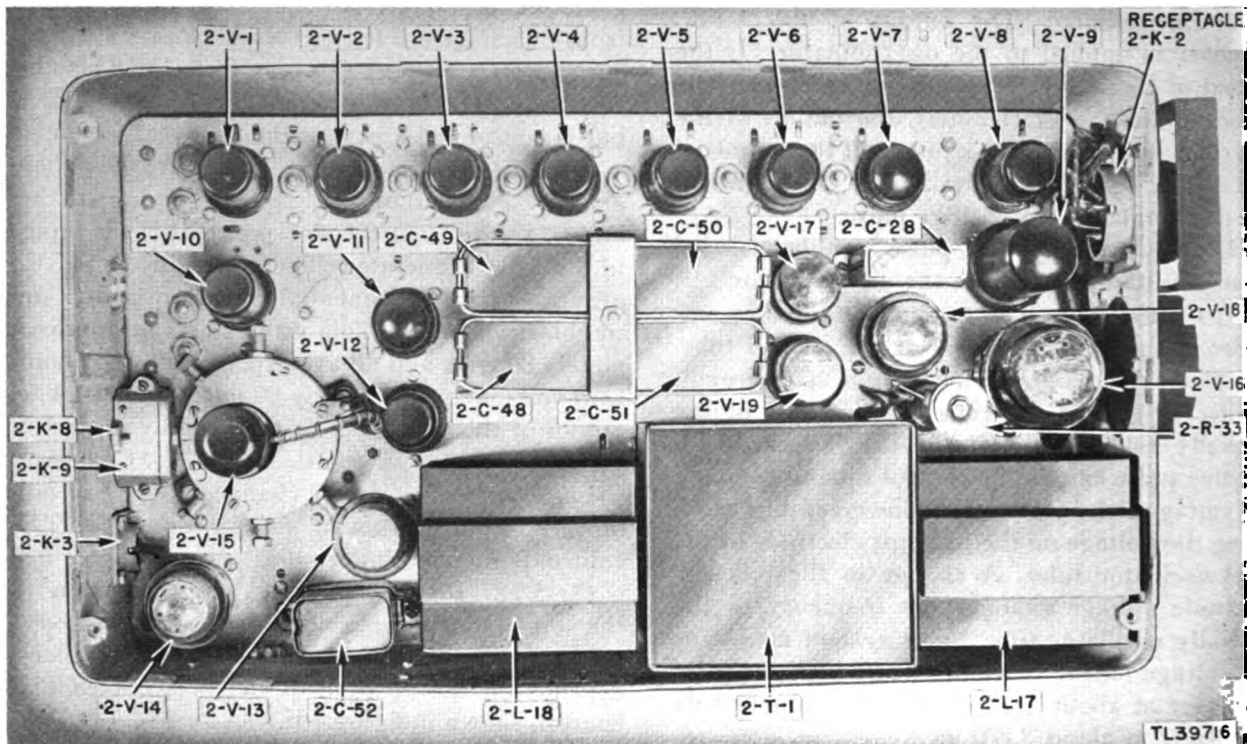
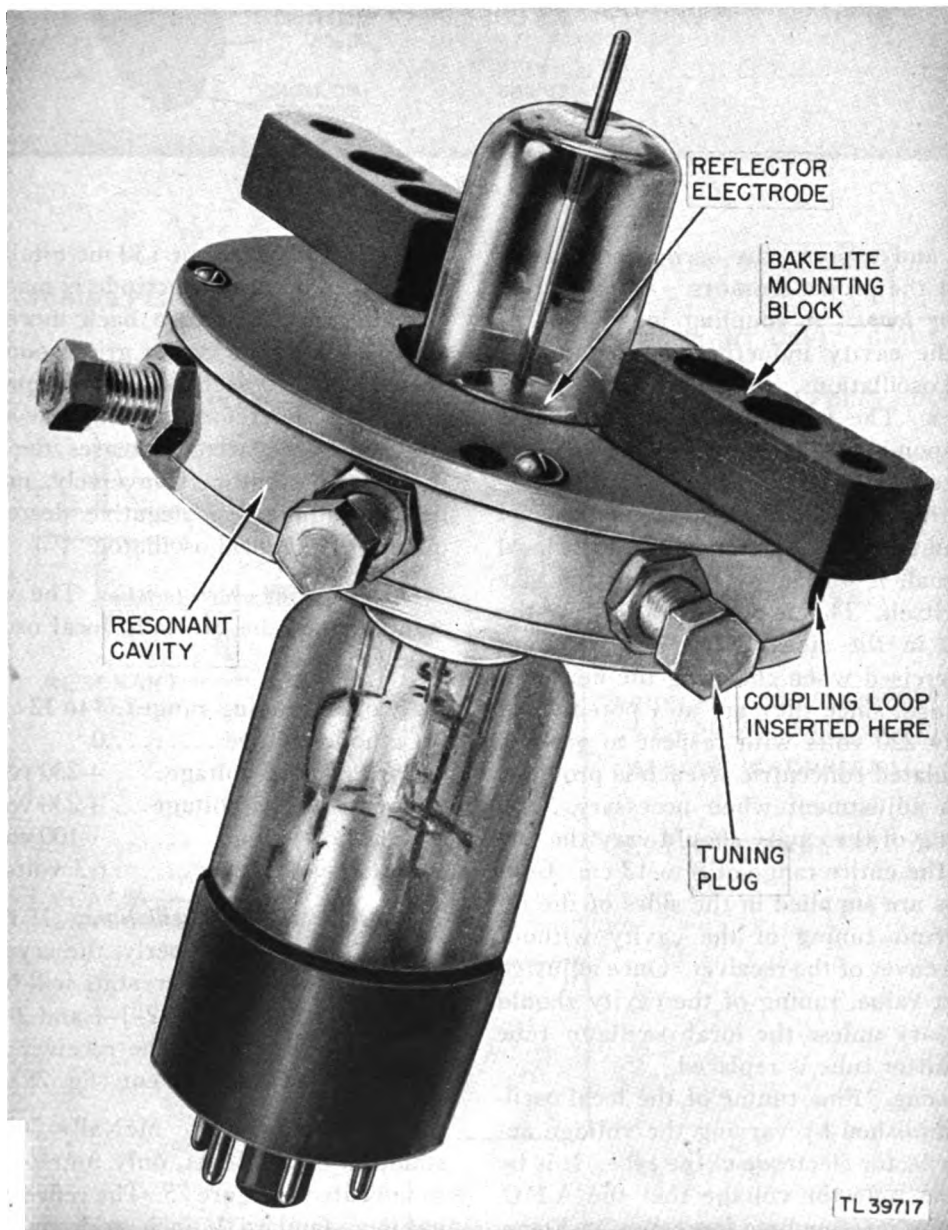
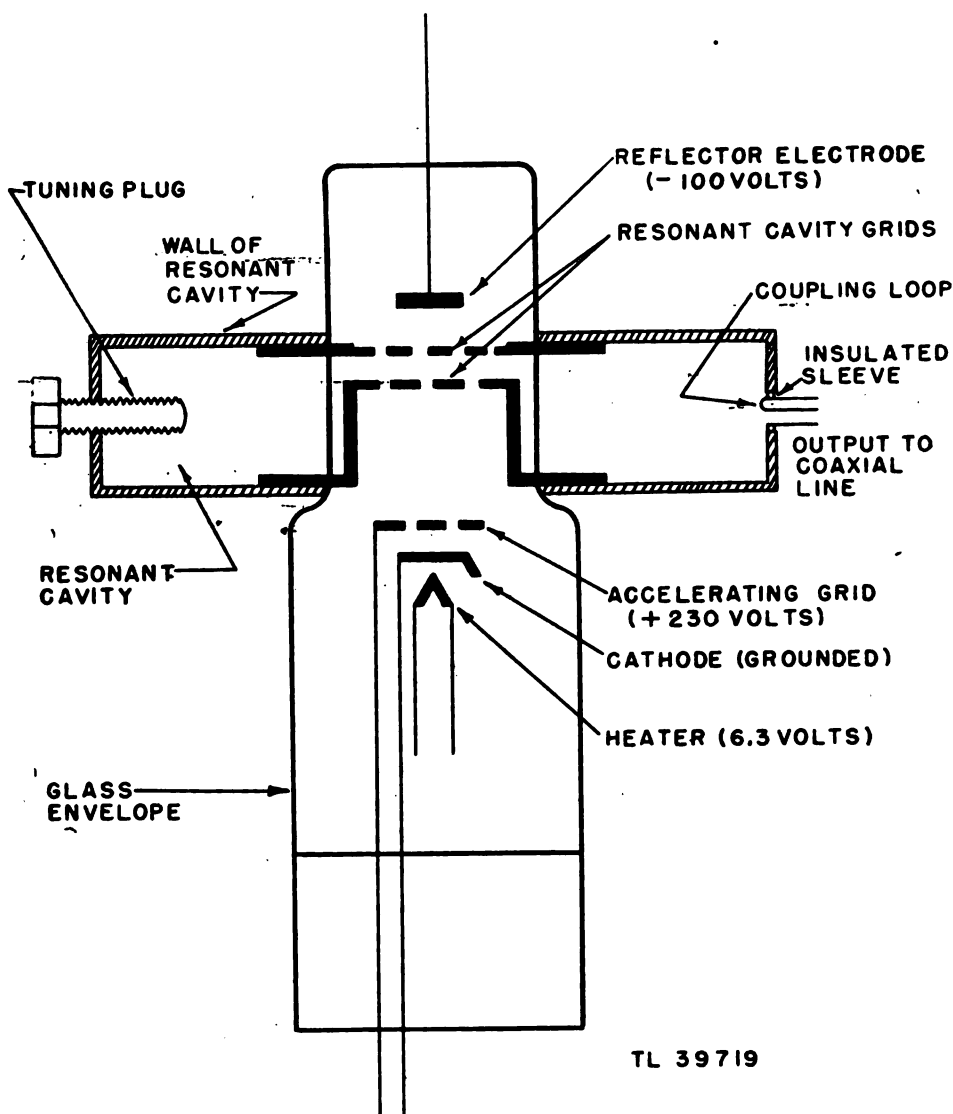

Figure 74. Radio Receiver BC-1223-A, top view of chassis.
Figure 75. Local oscillator, assembled.
Figure 77. Local oscillator, cross-sectional diagram.
stage in the receiver system. Figure 73 is a simplified schematic diagram of the A.F.C. circuit; figure 90 represents the simplified schematic diagram of the signal channel and S.T.C. circuit. A complete schematic diagram of the receiver is shown in figure 99. Figure 74 shows the location of the tubes on the receiver chassis.
*a. LOCAL OSCILLATOR.* Figure 74 shows the local oscillator tube 2-V-15 mounted in the receiver. Figures 75 and 76 show assembled and disassembled views respectively. The tube is a McNally 707B of the velocity-modulated type. It is a low-powered oscillator designed for a wavelength range of 8 to 12 cm. The tube is used with a resonant cavity, most of which is external to the vacuum of the tube. The cavity may be removed and used with any tube of the same type. A cross-section diagram of the McNally tube is shown in figure 77. Note that the tube contains an indirectly heated cathode, an accelerating grid, part of the resonant cavity (space), two cavity grids, and a reflector electrode. The voltages applied to the electrodes are indicated in the diagram. The output of the oscillator is taken from the coupling loop which projects into the cavity.
(4) *Coupling loops.* A coupling loop (fig. 77) inserted in the cavity inductively picks up the energy of the oscillations, which is then fed to the crystal mixers. The frequency of the oscillator output corresponds to the frequency at which the cavity has been set.
(9) *Mounting.* The McNally 707B tube fits a standard octal socket, only four pins being used, as indicated in figure 75. The reflector plate terminal is a standard  $\frac{3}{8}$ -inch grid cup, located at the top of the tube. The r-f outputs are taken from